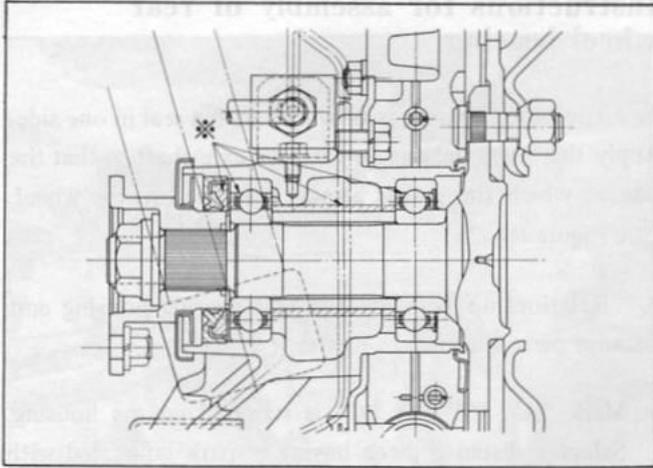

Fig. RA-25 Lubrication chart of rear axle
1. The outer bearing is provided with a seal in one side. Apply the outer bearing to the rear axle shaft so that the side to which the seal is attached is faced to the wheel. (See Figure RA-25)
Fill the portions indicated by asterisk (\*) in Figure RA-25